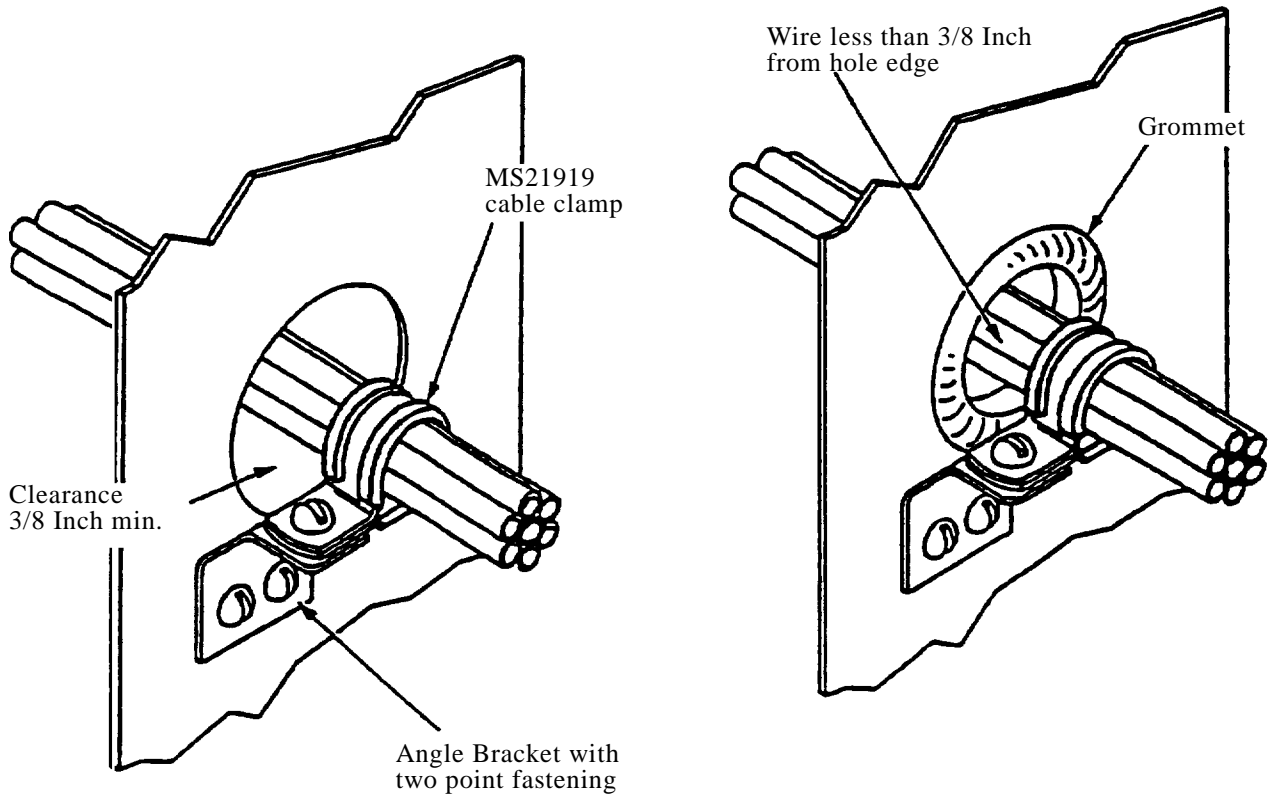
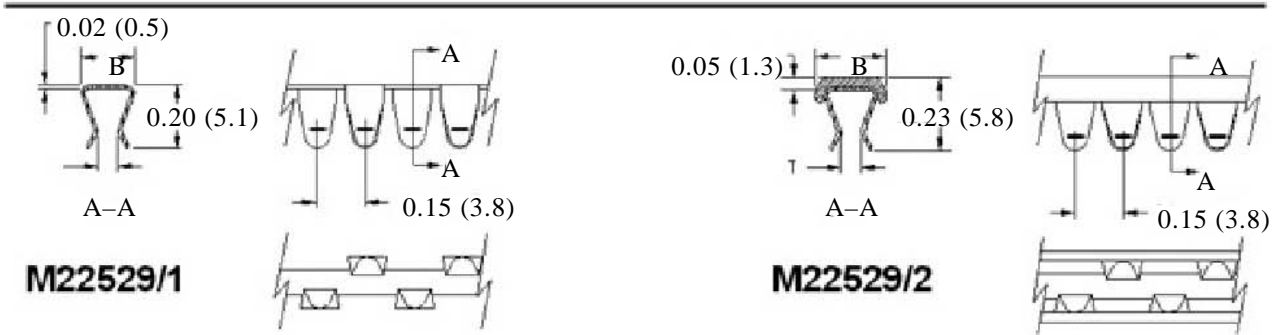

Figure 17. Methods of Chafing Prevention
Figure 18. Lightening Hole Grommet Mounting.
of rubber and are resistant to hot oils and coolants. The grommet has a maximum temperature application of 250°F. An example of the grommet is shown in Figure 17. The grommet should be replaced with an unsplit grommet whenever possible. When grommet must be split, it shall be split as shown in Figure 18.
d. If the grommet will not fit without apparent damage, cut the grommet as shown in Figure 18.
(1) M22529: Basic specification number representing NASM22529, which defines the general requirement for caterpillar grommet.
(4) C: Denotes a precut length requirement.
(5) -85: Represents the number of castles in a precut length at intervals of 0.015 inches (Figure 18).
34. **NASM22529/2 Flat Edge Hole Installation.** To install grommets on non-lightening, flat edge feed through holes as shown in Figure 17 perform the following: